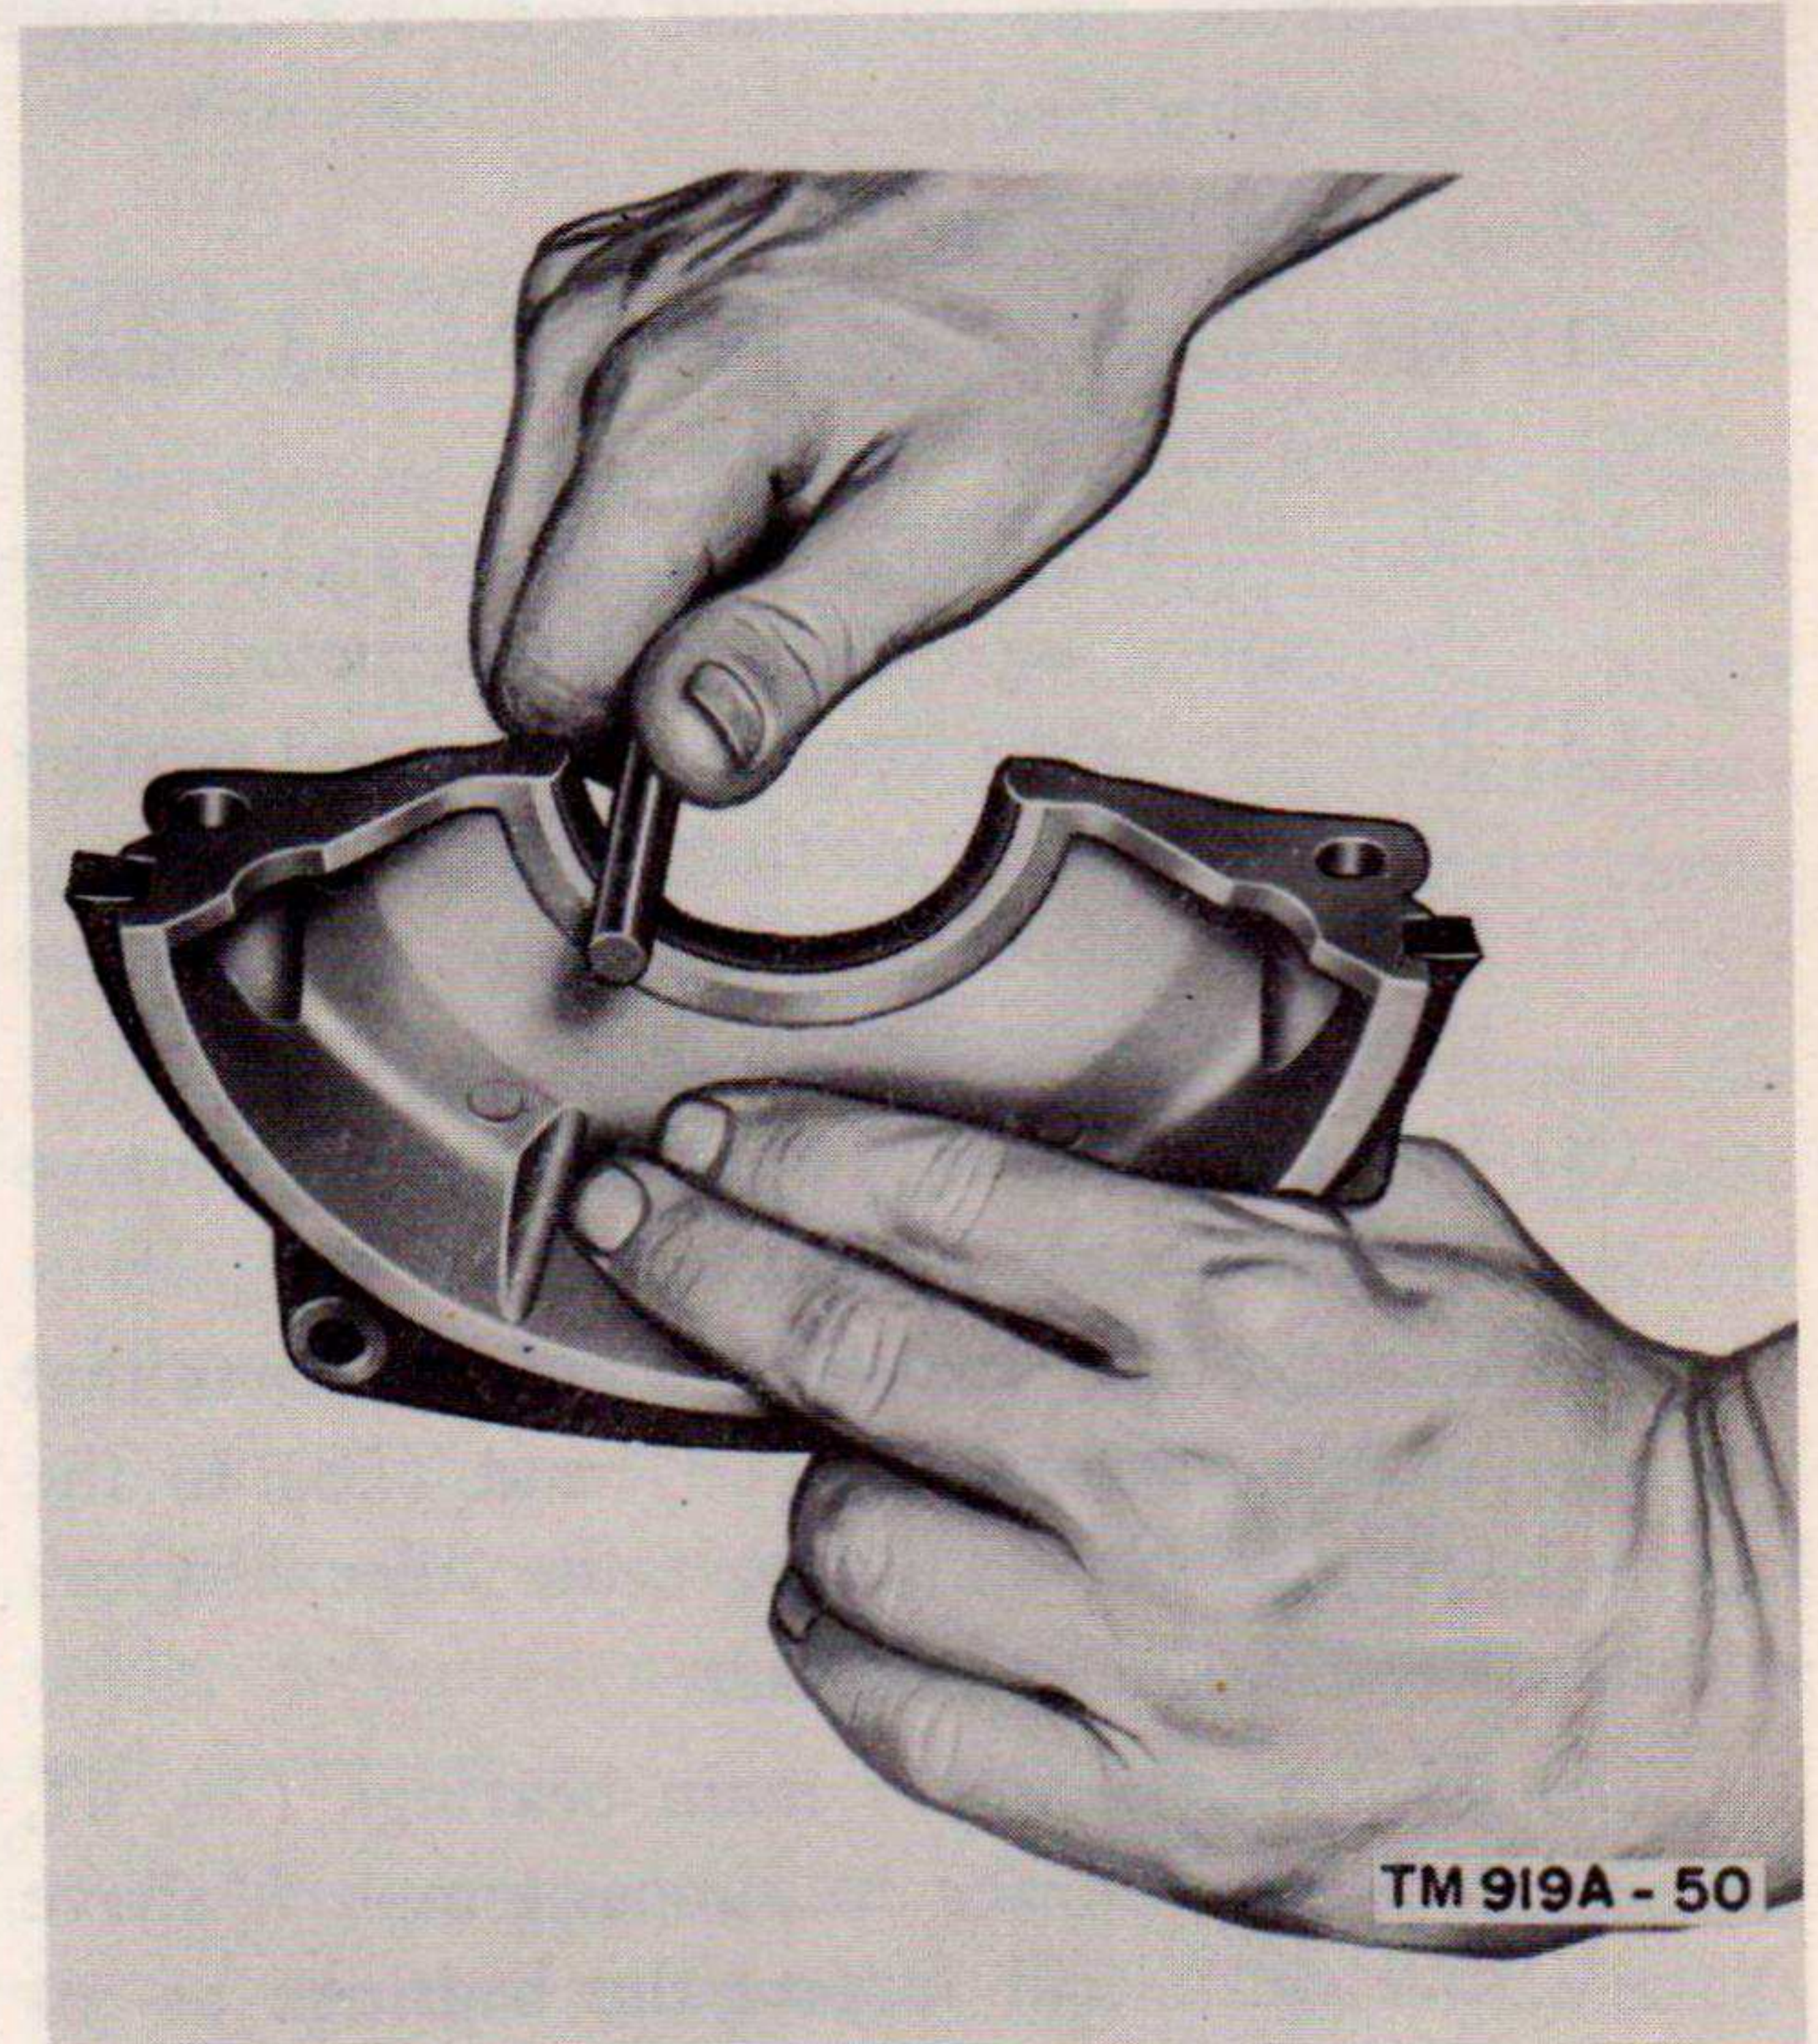

Figure 50. Installing rear filler block jute.
- (1) Slip the thrust plate (69) onto the crankshaft (59). Be sure the side of the thrust plate with the inner beveled edge faces the front bearing. Insert the key (68) in the crankshaft groove and press the gear (67) onto the shaft.
- (2) Place the upper main bearings (38, 41, and 44) in position in the block. If necessary, install a new jute (84) in the rear bearing oil guard (70). Follow the same procedure when installing this jute as when installing the jute in the rear filler block (subpar. (5) below). Install the rear bearing oil guard (70) in the cylinder block.
- (3) Apply clean oil (OE) to the main bearing crankshaft journals. Then install the crankshaft (59) in the block.
- (4) Install the lower main bearings (37, 40, and 43) on the crankshaft, and install bearing caps (36, 39, and 42).
- (5) To install a new jute (84) in the rear filler block (58), insert the jute in the groove of the block. Roll the jute into the groove with a round piece of wood or steel as shown in figure 50. Start at one end and roll the jute to the center of the groove. Then start from the other end and again roll towards the center. Be sure the jute is pressed firmly into the bottom of the groove. The small portion of jute that protrudes above the surface of the block at each end must be cut off flush. Install the rear filler block (58).
- (6) To check the clearance between the bearing and crankshaft journal, place a .002-inch shim between the journal and the bearing. Tighten the cap screws to the recommended torque of 85 to 95 pounds. A slight drag of the shaft, when turned by hand, proves